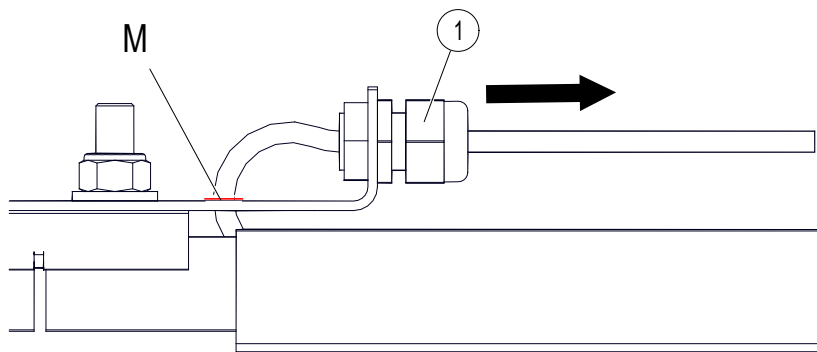

Fig. 32: Pull the cold connection cable through the strain relief (item 1)
→ Pull the cold connection cable through the strain relief (item 1) and tighten it. Observe the minimum bending radius of $3 \times d$ ($\varnothing 4.4\text{mm}$) (see Fig. 32).